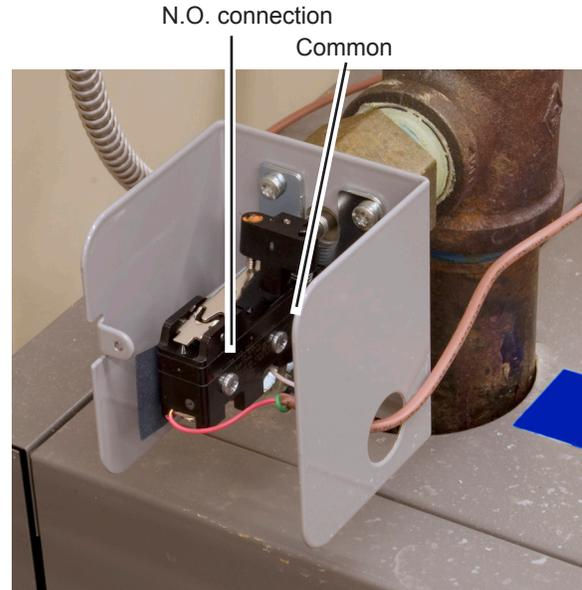

Fig. B10-3 - Wiring connections inside switch box
11. Re-connect the wires as shown in Fig. B10-3.